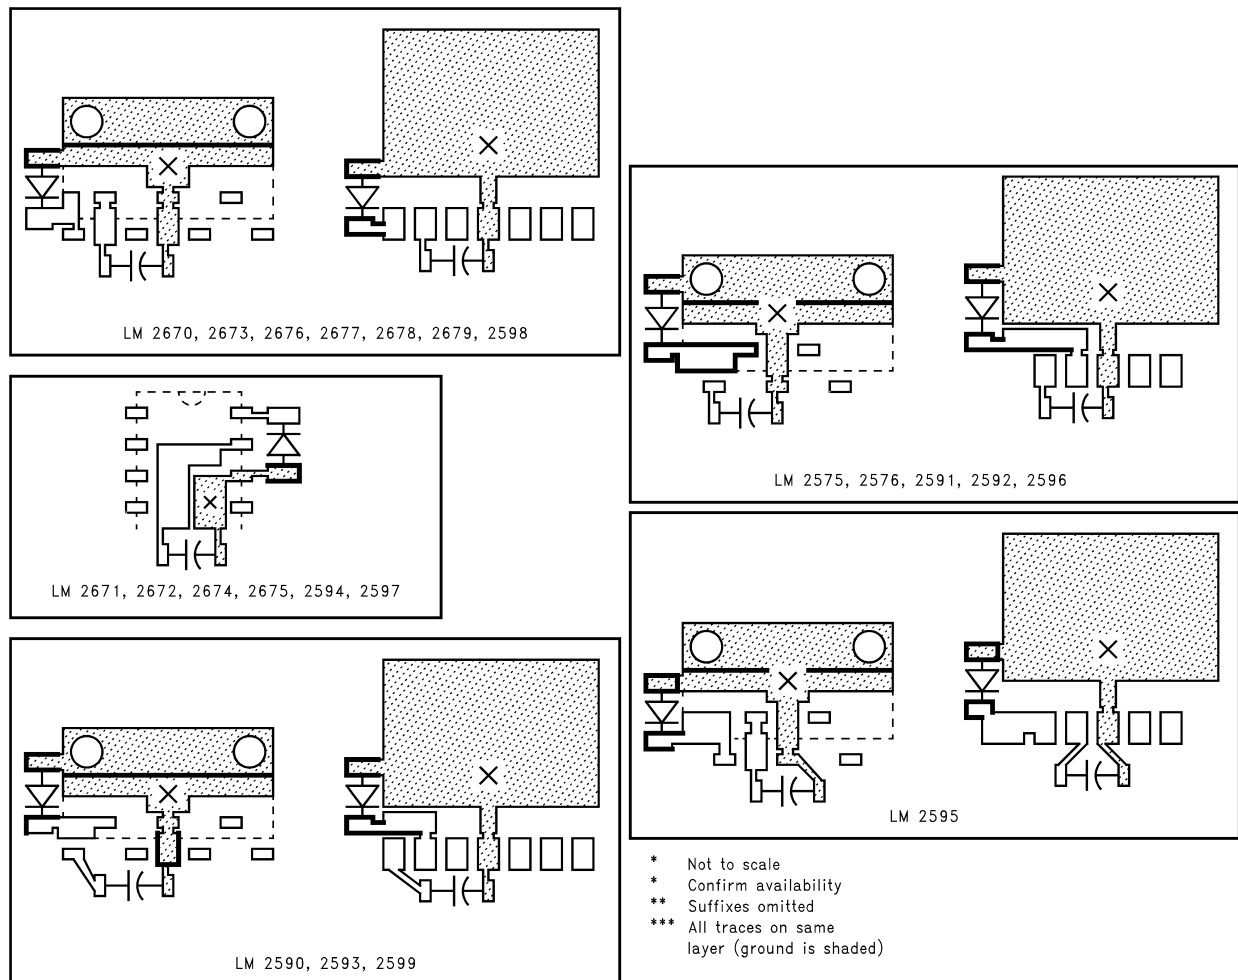

Figure 1. Recommended Layout Starting Points
The overall subject of PCB design is an extremely wide one, embracing several test/mechanical/production issues and also in some cases compliance/regulatory issues. There is also a certain amount of physics/electromagnetics involved, if a clearer understanding is sought. But the purpose of this application report is to reach the audience most likely to use it. Though there is enough design information for the more experienced designer/CAD person, the application report includes a quick-set of clear and concise basic rules that should be scrupulously followed to avoid a majority of problems. In particular, we have provided recommended starting points for layout when using the popular LM267x, LM259x and LM257x families (Figure 1) The focus is on the step-down (Buck) Simple Switcher ICs from Texas Instruments, but the same principles hold for any topology and switching power application.
1. Place the catch diode and input capacitor as shown in Figure 1.
2. For high-speed devices (for example, LM267x) do not omit placing input decoupling/bypass ceramic capacitor (0.1 μF –0.47 μF) as in Figure 1.
3. Connect vias to a Ground plane if available (optional, marked 'X' in Figure 1).
Remaining component placements can be taken up only after the input bypass capacitor and the catch diode are firmly in place and are both acap. The traces to either of these two components should be short, fairly wide, and should not go pass through any vias on the way to the IC. For SMT boards this implies that the input capacitor and catch diode are on the same layer as the IC. **In Figure 1 suggested PCB starting points are provided for several switchers.** All of them focus on placing these two critical components correctly. These layouts are strongly recommended for most applications. **The 'X' marks suggest the recommended location where vias can be used to connect to a Ground Plane (if present).** The remaining components can be placed relatively carelessly (though in doing so, there may be slight impact, for example on the accuracy of the output voltage rail and its ripple, but nothing compared to what can happen if the input decoupling cap and catch diode are incorrectly placed). Trace routing is now discussed in more detail.
The tab of the power packages of the Simple Switcher devices is fortunately at Ground potential, so having large copper planes around the tab will not produce EMI. The tab can be left floating, but if it is used, it must be physically connected directly to the GND pin of the IC as indicated in Figure 1. If a double-sided board is used, several small vias can be sunk right next to the IC Ground in positions marked 'X' on to a 'Ground plane' on the other side of the PCB. These vias therefore not only help in the correct electrical implementation of grounding, but also can serve as thermal shunts. They are therefore
With double-sided boards, it is a common practice to almost completely fill one side with ground. There are people who usually rightly so consider this a panacea or ‘silver bullet’ for most problems. As we have seen, every signal has a return, and as its harmonics get higher, the return ‘wants’ to be directly under the signal path, thus leading to field cancellation, and reduction of inductance. It also helps thermal management as it couples some of the heat produced by power devices on one side of the board to the other side. The Ground plane also capacitively links to noisy traces above it, causing some ‘softening’ of transients and thereby some reduction in noise/EMI ---**unless the cross-coupling is so severe as to start causing the Ground plane itself to radiate.** Vias can be sunk under the ground terminal of all power components in to the Ground plane, and this reduces DC resistance offset errors on the output voltage too for example. As mentioned, in Figure 1, ‘X’ marks have been placed to indicate that if there is a double sided board in use, and a Ground plane is present, then vias can be added at these points. They are optional, and so if a low cost single-sided board is preferred, they can be omitted. But if these vias are also doubling over as ‘thermal vias’ for the switcher IC, as when they are under the tab of an SMT power device, they should be sized appropriately as previously discussed.
However, a Ground plane should be an ‘add-on’ to the recommendations in Figure 1. It does not substitute the correct placement of the two critical components. Much effort should go into not breaking or partitioning this plane. Further, in general, if too much switching power flow occurs through such a plane, it can create 'ground bounce' and cause controller upsets. Therefore in higher power applications, with the added luxury of multi-layer PCBs, separate signal and power ground planes are used. But for the lower power SIMPLE SWITCHER family, a single Ground plane is all that may be required. And if the layout is carried out conscientiously, keeping all the recommendations in mind, even a single-sided board should suffice.